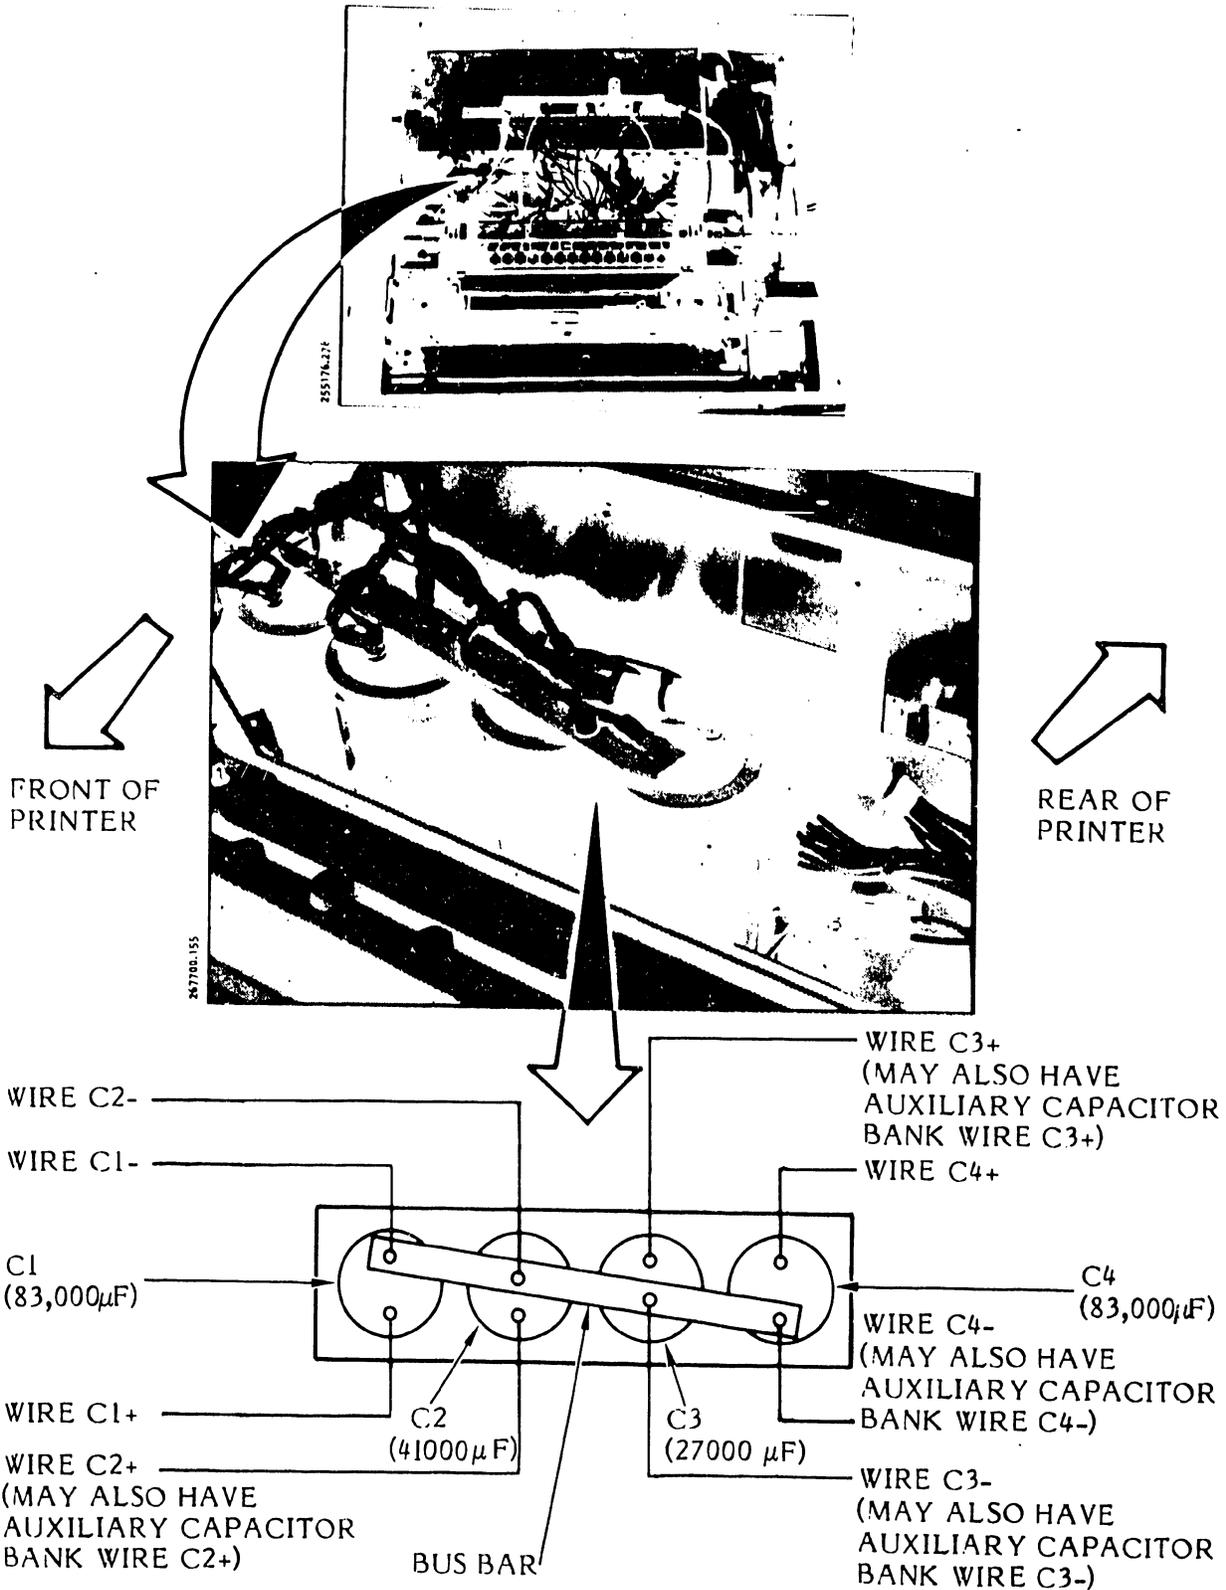

Figure 3-81. Capacitor Bank Capacitor Removal/Installation
(Figure 3-81)
See figure 3-81 to locate the capacitor(s).
- e. Check again to make sure the wiring is correct as shown in figure 3-81.